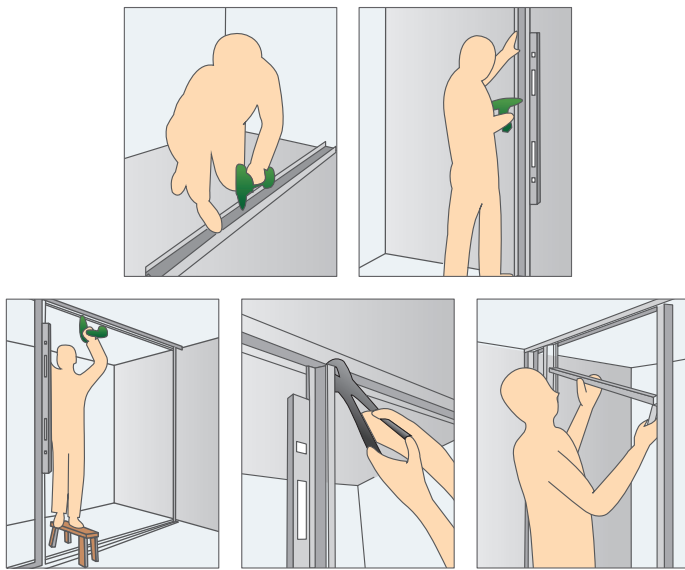

Figure 2: Guideline for Stud Framing Installation Sequence.
- Top (ceiling), bottom (floor) and masonry wall tracks are to be anchored to the floor slab at maximum spacing of 610mm centers. Refer to Figure 2 for guideline for stud framing installation sequence.